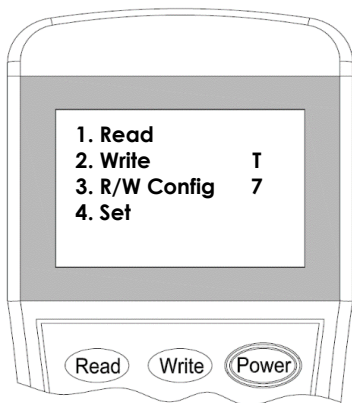

Figure 12
3. Switch-on the programmer, then press button **“3”** to enter to Configuration mode (Figure 12).